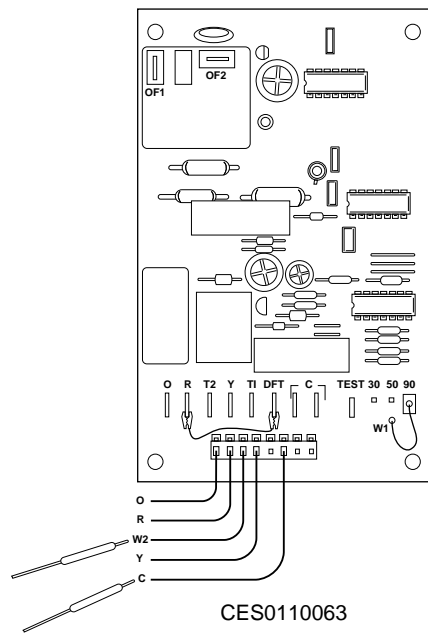

Fig. 21—Checking Between C and W2
10. Unit is now operating in defrost mode. Check between C and W2 using voltmeter as shown in Fig. 21.
5. Determine 2 terminals that provide greatest resistance reading. Through elimination, remaining terminal must be common (C). Greatest resistance between common (C) and another terminal indicates start winding because it has more turns. This terminal is start (S). Remaining terminal will be run winding (R). (See Fig. 21.)